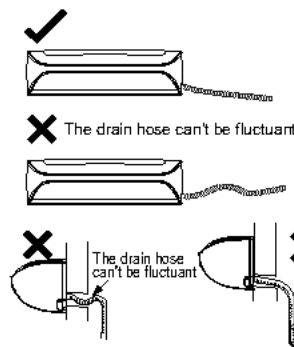

Fig.24
- (2) Slant the drain hose slightly downwards. The drain hose can't be curved, raised and fluctuant, etc.(As show in Fig.24)